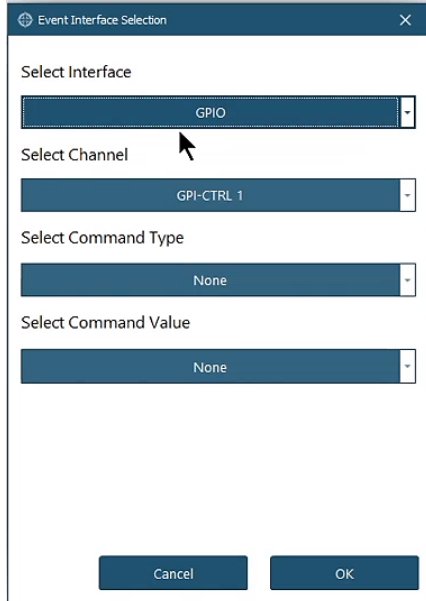
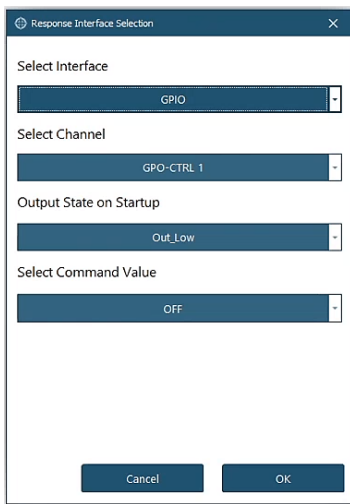

Figure 21
Figure 24
4. Select the appropriate Channel from the '**Select Channel**' drop-down menu. The options shown here will be dependent on the selected input interface. See figure 21.
5. Select the appropriate Command Type from the '**Command Type**' drop-down menu. The options shown here will be dependent on the selected input interface. See figure 21.
6. Select the appropriate Command Value from the '**Command Value**' drop-down menu. The options shown here will be dependent on the selected input interface. See figure 21.
7. Select '**OK**' at the bottom of the Event Interface Selection popup. See figure 21. The selected Event should now be visible in the Data Mapping Table. The 'Response' field will be displayed as 'TBD' until a response is defined by the user.
10. Select the appropriate Channel from the '**Select Channel**' drop-down menu. The options shown here will be dependent on the selected output interface. See figure 24.
11. Select the appropriate '**Output State on Startup**' from the drop-down menu. The options shown here will be dependent on the selected output interface. See figure 24.
12. Select the appropriate '**Command Type**' from the drop-down menu. The options shown here will be dependent on the selected output interface. See figure 24.
13. Select '**OK**' at the bottom of the Response Interface Selection popup. See figure 24. The 'TBD' in the Response column should now be replaced with the previously defined Response.
2. To Edit an Event in the Data Mapping Table, select **'Edit Event'** from the drop-down menu. The **'Event Interface Selection'** popup will be displayed. See figure 21. Similarly, to edit a Response, select **'Edit Response'** in the drop-down menu to display the **'Response Interface Selection'** popup. See Figure 24.